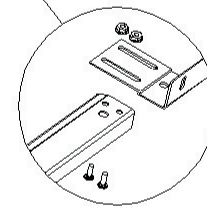

Figure 11
There are two sizes of jamb brackets. The jamb brackets are numbered for identification. The smallest numbered jamb bracket is installed closest to the bottom of the vertical track (Figure 11).
The universal jamb brackets have numbered hole positions for identification of positioning. The proper holes to use for this door are either 4,5 (6'0 thru 7'0 tall doors) or 4,6 (7'6 through 8'0 tall doors). The smallest numbered hole is installed closest to the bottom of the vertical track (Figure 11).
Loosely attach with (1) 1/4"x5/8" track splice bolt and (1) 1/4"-20 hex nut. **Note: 1/4"-20 hex nuts always go on the outside of the track curve.** Position short side of bracket, and track toward the jamb. Loosely attach second jamb bracket toward the top of the vertical track (Figure 11). Hand tighten.
Loosely attach flag bracket to the top of the vertical track with (2) 1/4"x5/8" track splice bolts and (2) 1/4"-20 hex nuts. **Note: 1/4"-20 hex nuts always go on the outside of the track curve.** Position with flat side of flag, and track facing toward the jamb (Figure 11). Hand tighten.